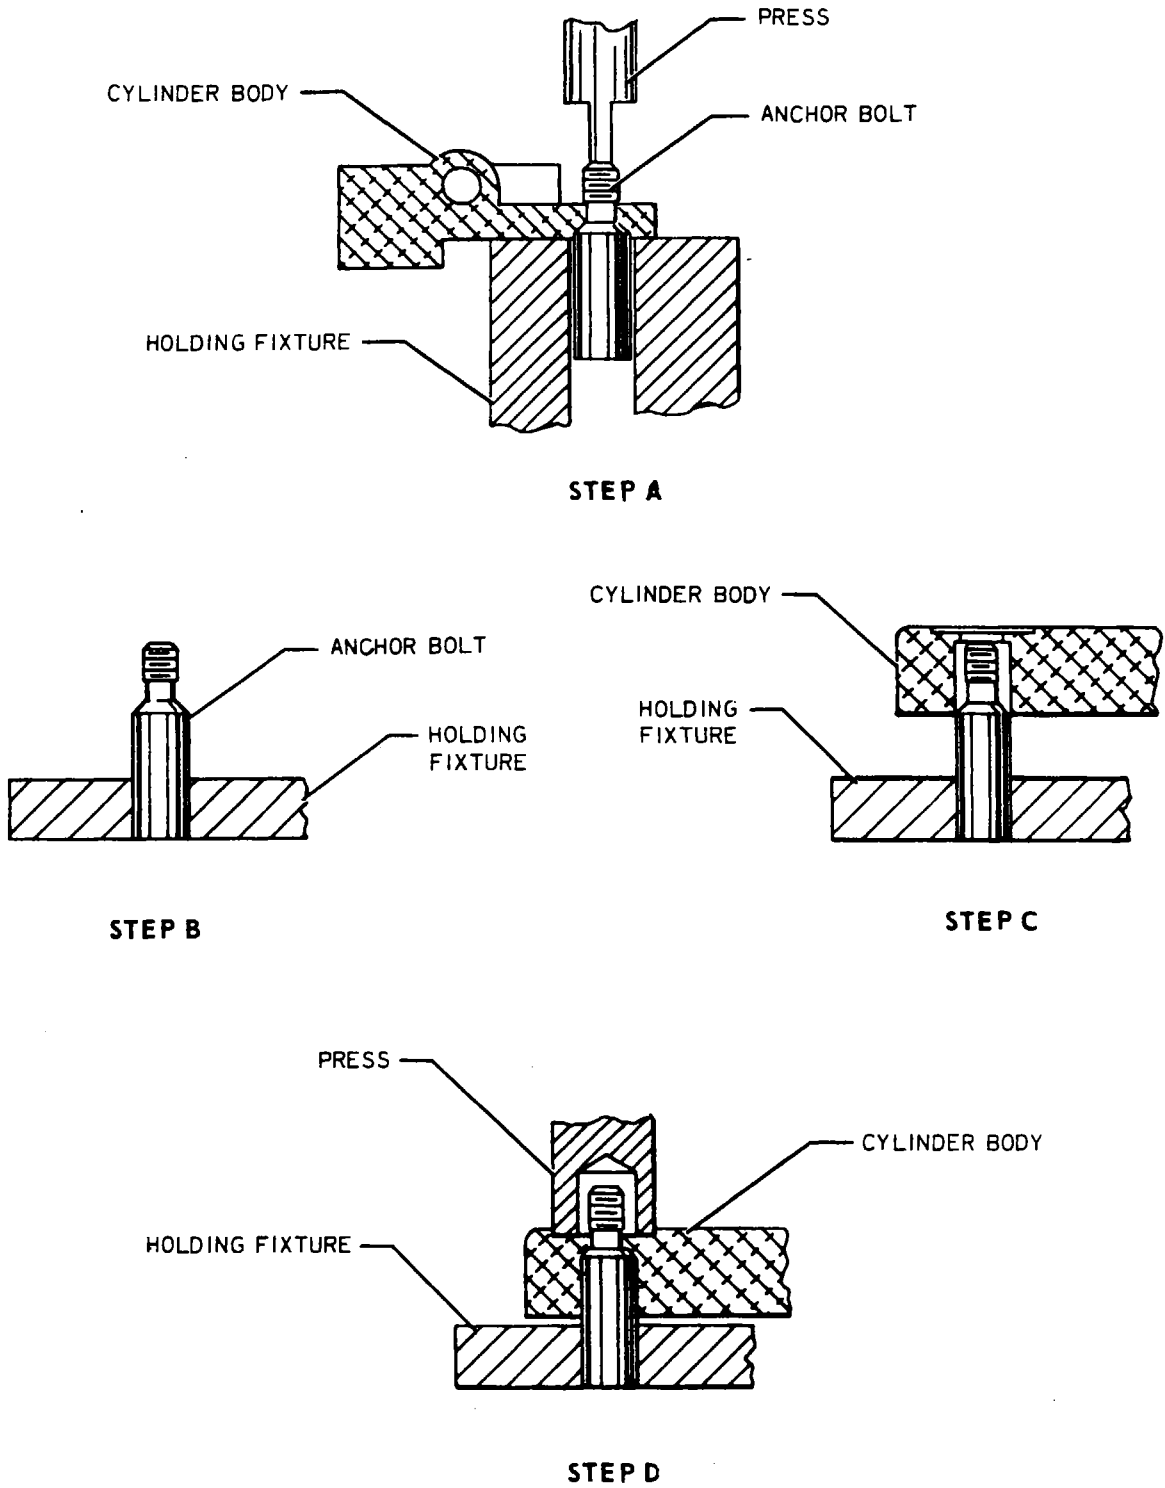

Figure 7-15. Removal and Installation of Anchor Bolts
- c. Slide brake cylinder housing from torque plate (10).
- d. Remove pressure plate (4) by sliding it off the anchor bolts (11) of brake cylinder housing.
- e. The pistons (2) may be removed by injecting low air pressure in the cylinder fluid inlet, forcing the pistons from the housing.
1. Position cylinder assembly on a holding fixture. (Refer to Figure 7-15, Step A.)
1. Support anchor bolt in a holding fixture. (Refer to Figure 7-15, Step B.)
2. Align cylinder body over anchor bolt. (Refer to Figure 7-15, Step C.)
3. Using a suitable arbor press, apply pressure on the spot face directly over the anchor bolt. (Refer to Figure 7-15, Step D.)
- b. Lubricate piston O-rings (3) with hydraulic fluid (MIL-H-5606) and install on pistons (2). Slide piston into cylinder housing (1) until flush with surface of housing.
- c. Slide pressure plate (4) onto anchor bolts (11) of housing.
- d. Slide cylinder housing on torque plate (10).
- e. Position back plate (7) between wheel and brake disc. Install bolts and torque to 40 inch-pounds to secure the assembly.